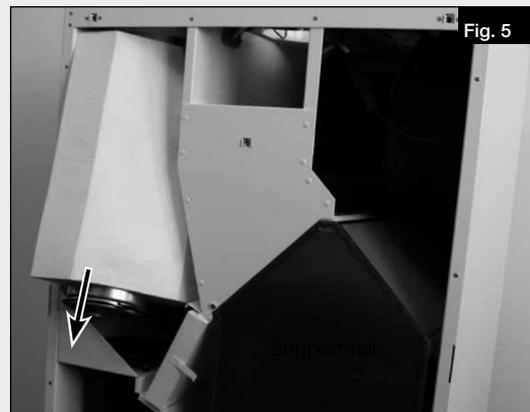

Fig. 5
2. Swing out the bottom of the silencer and remove the silencer downwards from the unit (see Fig. 5).